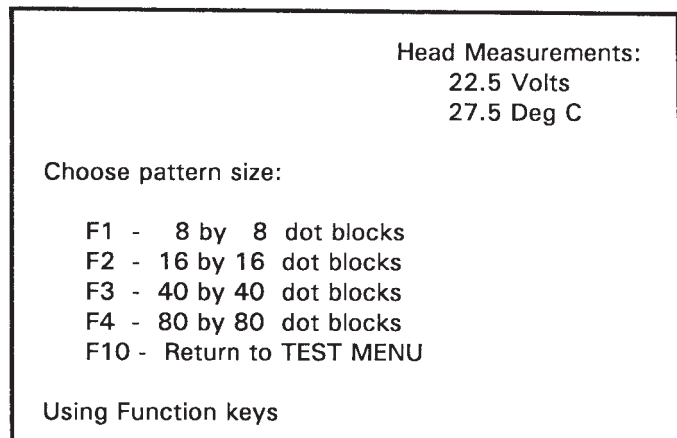

FIG. 8 Pattern Size
13.7.4.1 *Choose Pattern Size*—Upon striking the F9 key, the screen will appear as shown in Fig. 8. Select F4 to generate 80 by 80 dot blocks for densitometer measurements. Upon striking F4, the printer will start or the screen message will indicate the following: